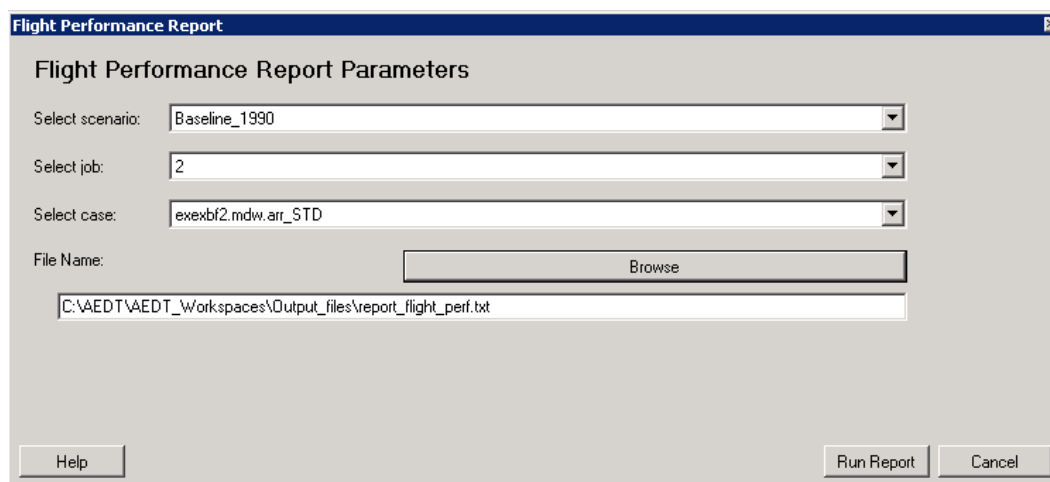

Figure 8-2 Flight Performance Report Dialog Box
2. The *Flight Performance Report dialog* box will open (Figure 8-2).